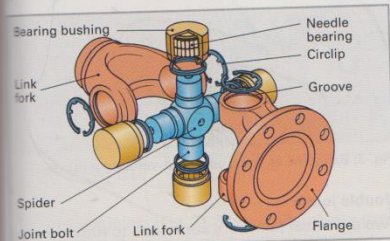

Fig. 1: Universal joint
**Universal joints (Fig. 1).** The link forks are flexibly connected with each other by the joint bolts arranged in the spider. The joint bolts are usually mounted in the link forks in fully encapsulated needle bearings (therefore requiring no maintenance).